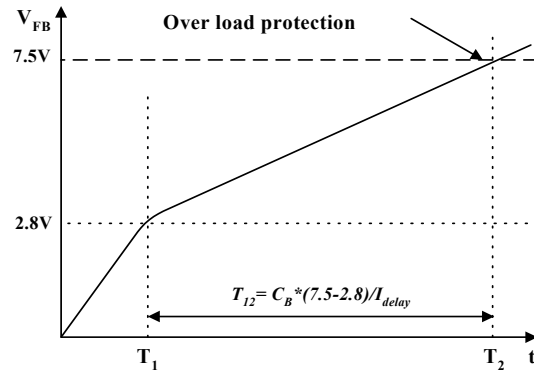

Figure 8. Over load protection
3.1 Over Load Protection (OLP) : Overload is defined as the load current exceeding its normal level due to an unexpected abnormal event. In this situation, the protection circuit should trigger in order to protect the SMPS. However, even when the SMPS is in the normal operation, the over load protection circuit can be triggered during the load transition. In order to avoid this undesired operation, the over load protection circuit is designed to trigger after a specified time to determine whether it is a transient situation or an overload situation. Because of the pulse-by-pulse current limit capability, the maximum peak current through the Sense FET is limited, and therefore the maximum input power is restricted with a given input voltage. If the output consumes more than this maximum power, the output voltage (Vo) decreases below the set voltage. This reduces the current through the opto-coupler LED, which also reduces the opto-coupler transistor current, thus increasing the feedback voltage (Vfb). If Vfb exceeds 2.8V, D1 is blocked and the 5uA current source starts to charge CB slowly up to Vcc. In this condition, Vfb continues increasing until it reaches 7.5V, when the switching operation is terminated as shown in Figure 8. The delay time for shutdown is the time required to charge CB from 2.8V to 7.5V with 5uA. In general, a 20 ~ 50 ms delay time is typical for most applications. This protection is implemented in auto restart mode.